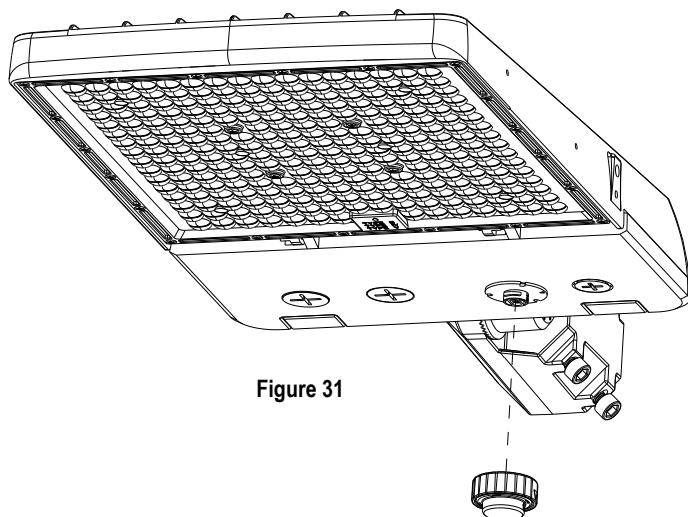

Figure 31
3. Plug the c-Max™ control node into the USB-C receptacle. (see Fig. 31)